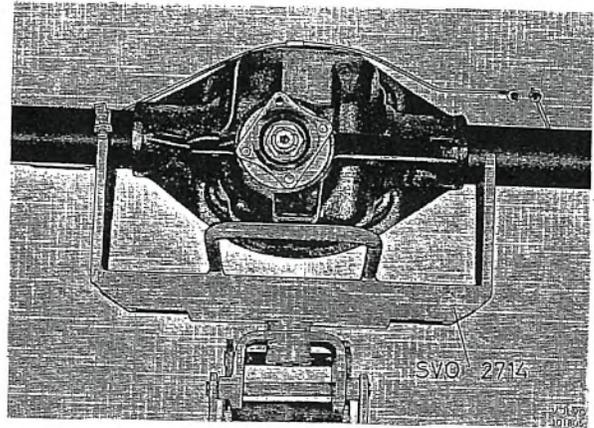

Fig. 4-162. Fixture for rear axle
1. Place the rear axle in fixture 2714 on a jack, see Fig. 4-162. Move the rear axle under the vehicle and fit on the bolts for the torque and support stays.